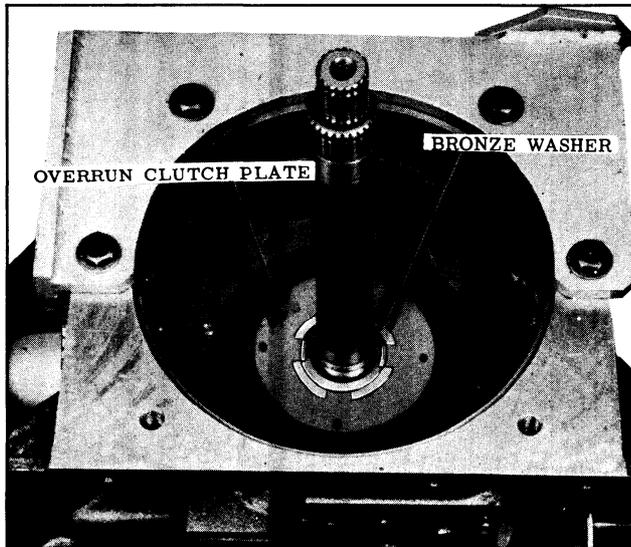

Fig. 3-142 Clutch Plate & Bronze Washer Installation
3. Install the overrun clutch plate and the bronze washer, with lugs up, over the intermediate shaft. Align lugs on washer with lugs on plate. (See Fig. 3-142)